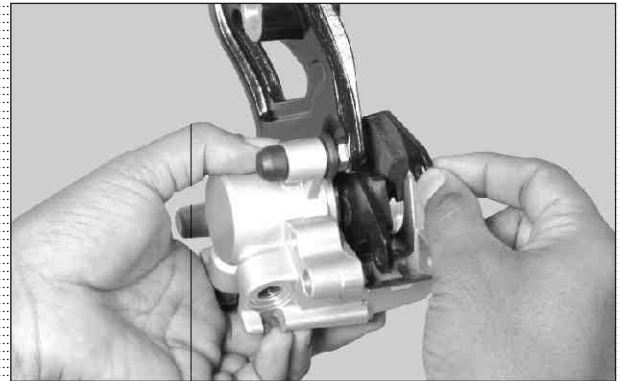

Fig. 6.100
- Take out pad complete inner and pad complete outer. (Fig. 6.100)